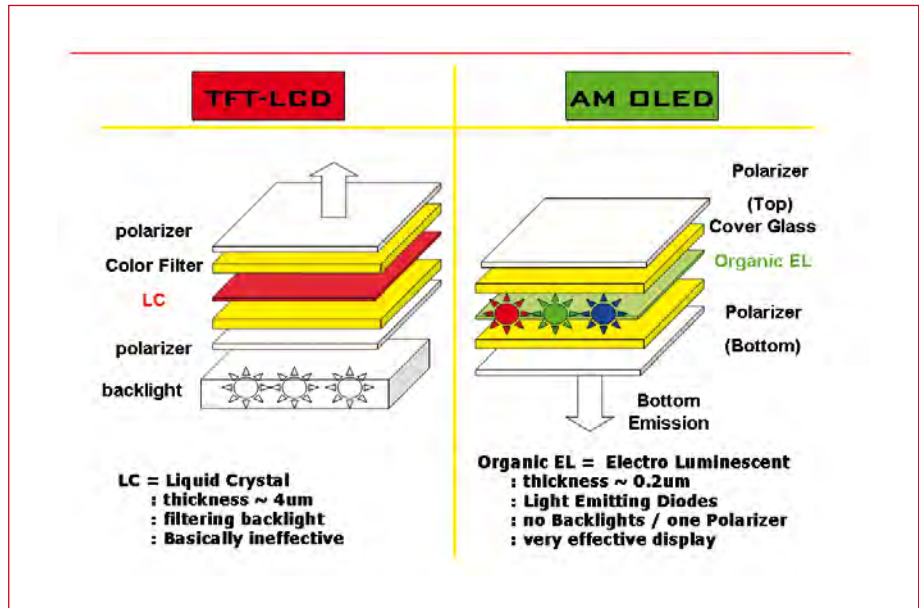

Figure 1. TFT LCD and AM-OLED (Active Matrix OLED) construction compared.
**Figure 1** illustrates the construction of OLED displays in comparison to LCDs. Since OLEDs are made from organic material that produces its own pixel illumination there is no need for a backlight behind the entire display area. It's this feature that enables the low build profile and current-saver operation.